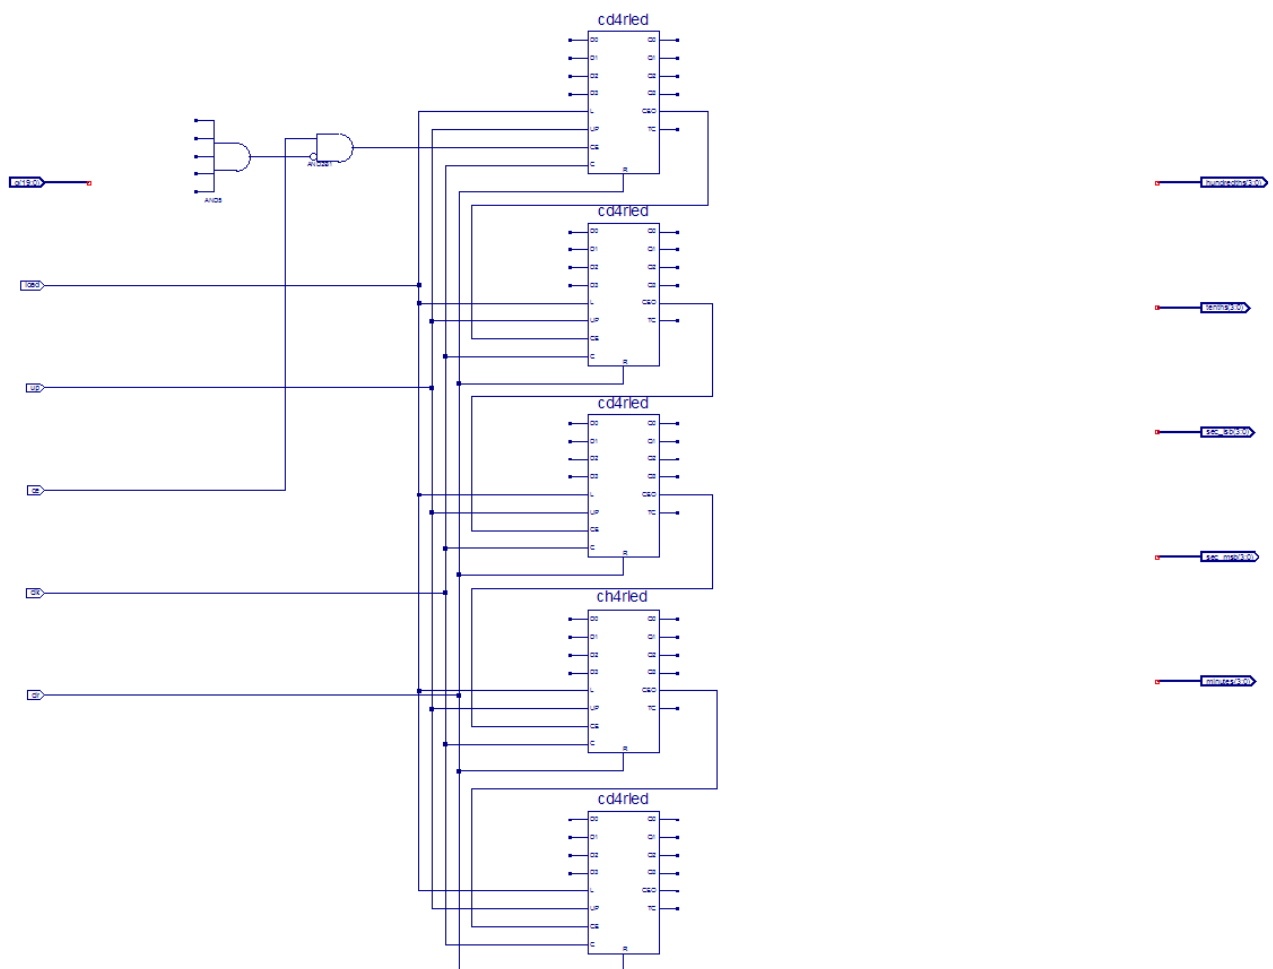

Figure 4-8: Partially Completed time\_cnt Schematic
Refer to Figure 4-8 for placement locations.
4. Connect the `load`, `up`, `clk`, and `clr` input I/O markers respectively to the `L`, `UP`, `C`, and `R` pins of each of the five counter blocks and connect the `CEO` pin of the first four counters to the `CE` pin of the next counter as shown in Figure 4-8.